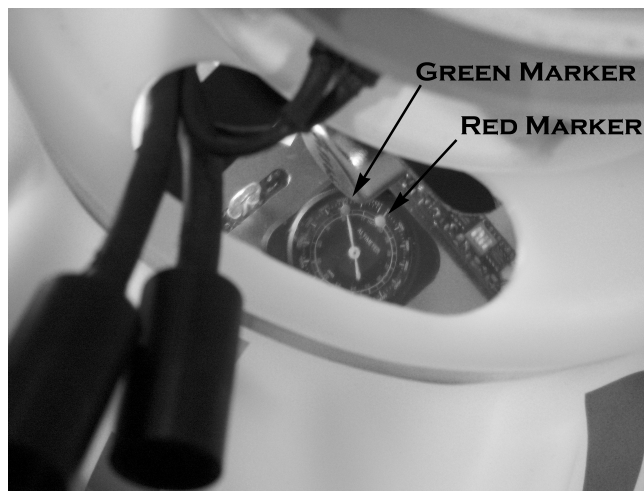

Figure 8-2 Viewing the Vacuum Sensor after Seal Up
- It is also important to check the IES vacuum seal just before launch. You can see the vacuum gauge (altimeter) thru the communications cable access hole as shown in Figure 8-2. Confirm that the gauge needle points to the green marker... if the needle has moved counterclockwise toward the red marker, the launch should be aborted and the IES re-sealed.